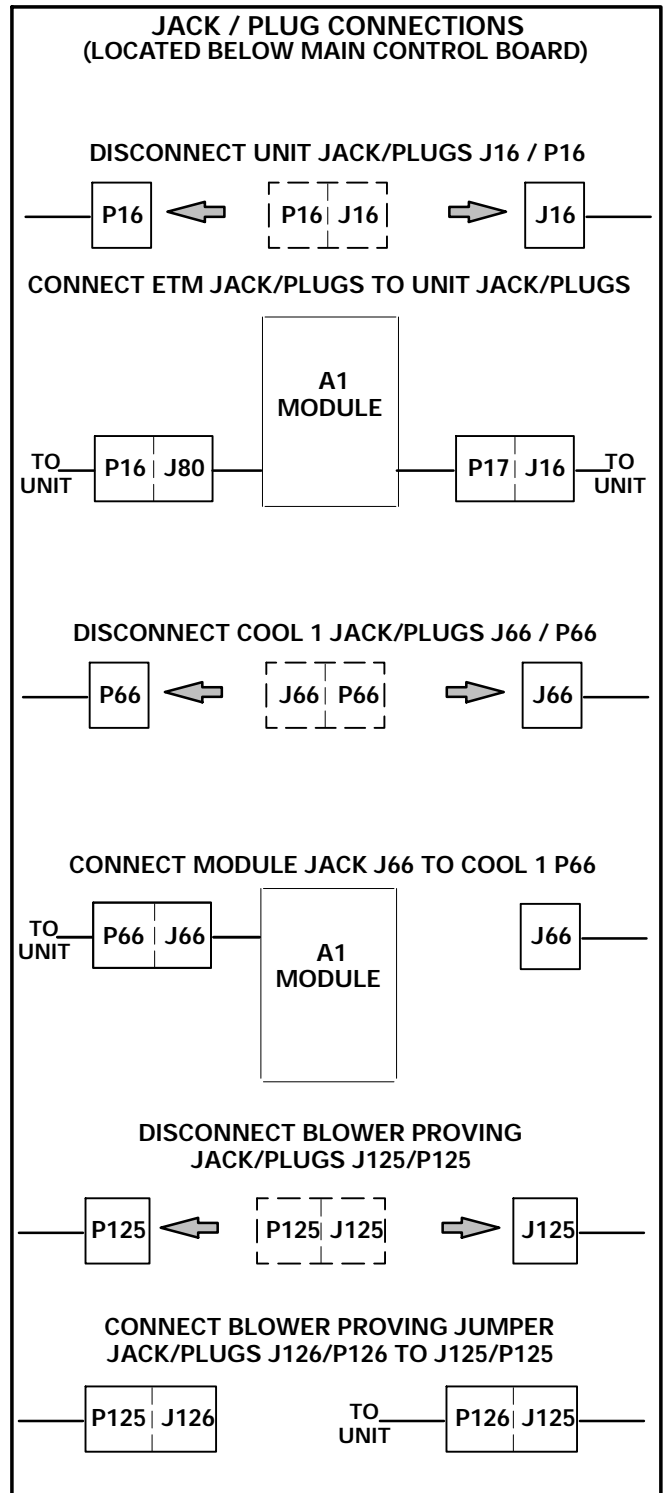

FIGURE 6
- 1- Disconnect J16/P16 unit jack/plugs located beneath IMC board. Connect unit plug P16 to ETM jack J80 and unit jack J16 to ETM plug P17. See figure 6.